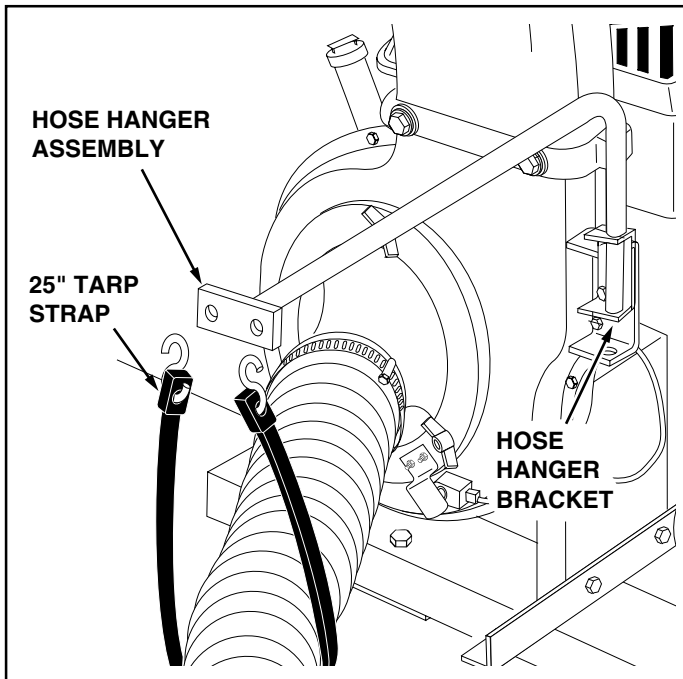

FIGURE 20
38. Place the hose hanger rod assembly down into the hose hanger bracket on the impeller housing assembly. See figure 20.
39. Loop the 25" tarp strap under the hose. Fasten the hooks to the hose hanger rod assembly. See figure 20.